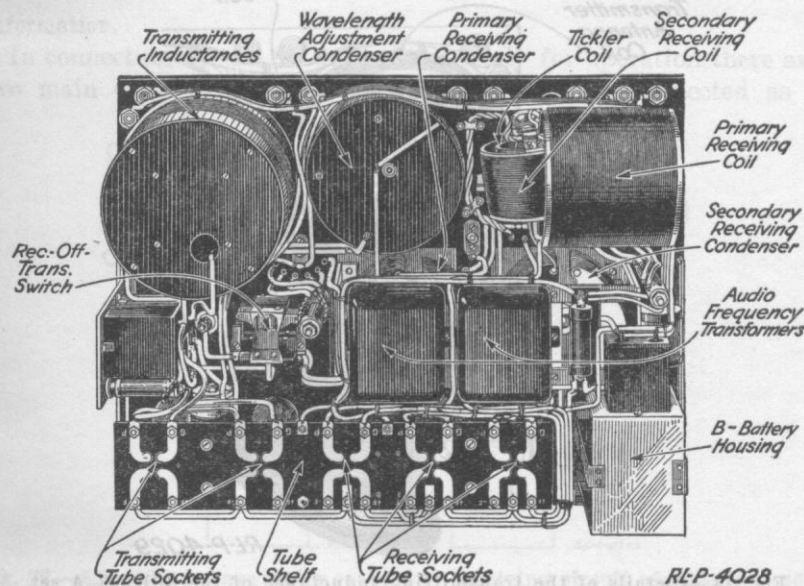

Fig. 73.—Rear, panel view of set box BC-32-A.
3. Open the door at the top of the panel and remove the two screws holding the panel frame to the bracket. Remove the two screws from the lower corners of the panel. Lift the panel out of the box. Inspect the parts in the rear of the panel carefully. (See Fig. 73.) Move the control knobs on the front of panel and note what moves in the rear.